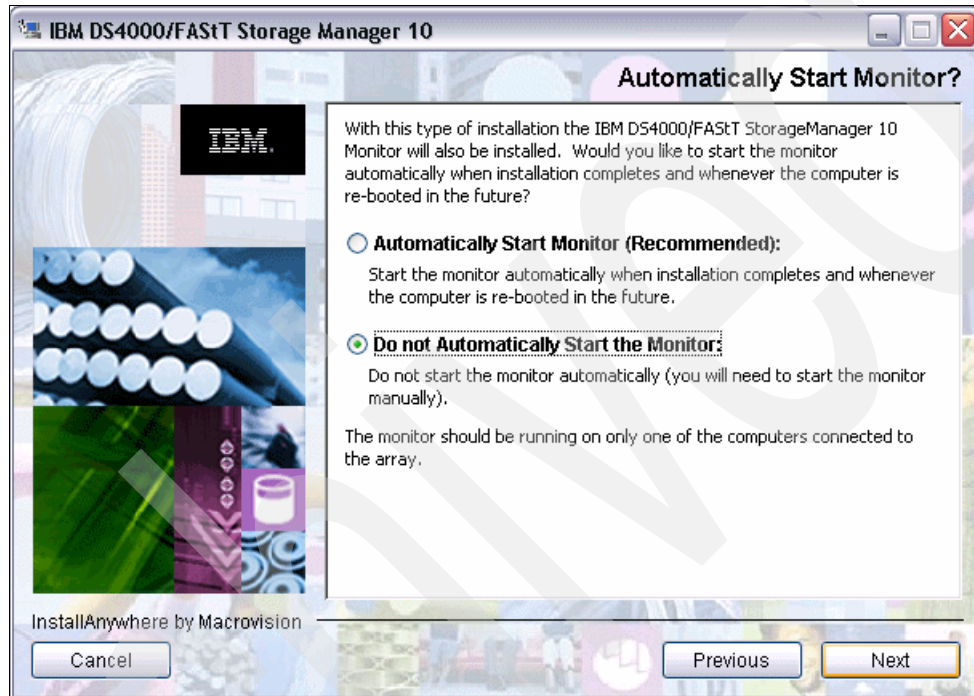

Figure 7-7 SM Automatically Start Monitor dialog
8. We select **Do not Automatically Start the Monitor** and click **Next** on the Automatically Start Monitor dialog, as shown in Figure 7-7.